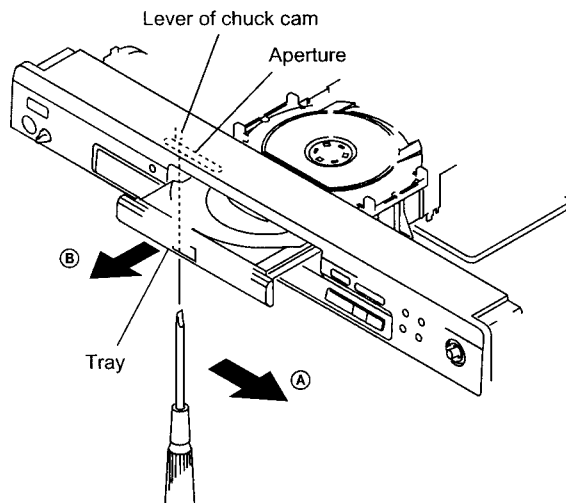

Fig. 1
- 1) Insert a tapering driver into the aperture of the unit bottom, and move the lever of chuck cam in the direction of the arrow (A). (See Fig. 1)
- 2) Draw out the tray in the direction of the arrow (B), and remove a disc. (See Fig. 1)